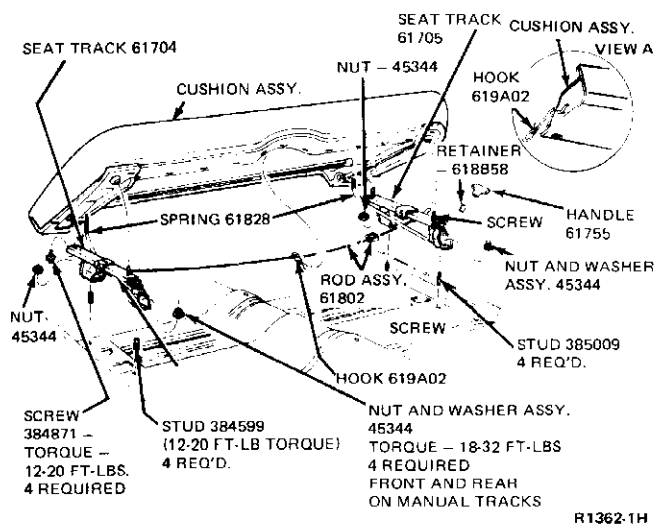

FIG. 1 Manual Seat Track Installation—Full Bench Seat—Ford and Mercury
The tie rod adjustments are made individually for each pair of tracks and affects (only) the track farthest away from the seat release handle. All seat tracks do not have tie rods for adjustment. See Figs. 1 through 8. If the latch retaining the track fails to release (on tie
rod equipped vehicles), turn the adjusting turnbuckle **clockwise**, just enough to shorten the tie rod travel and release the track latch (Figs. 1 through 8). If the latch fails to secure the seat travel, turn the adjusting turnbuckle **counterclockwise** to allow the latch to fully engage the locking position.
Manual seat tracks are retained to the floor pan by studs with nuts and washers, or screws (washer head type). The nuts and/or screws retaining the seat tracks are removed from inside and/or underneath the vehicle (Figs. 1 through 8).
2. Place the seat and seat track assemblies on a clean working area and disconnect the adjusting springs (Figs. 1 through 8).
2. Install the seat track-to-seat cushion retaining screws and tighten to specifications shown in appropriate figures (Figs. 1 through 8).
5. Then, install the screws and/or nuts and washer assemblies and tighten to specification shown in appropriate figures (Figs. 1 through 10).